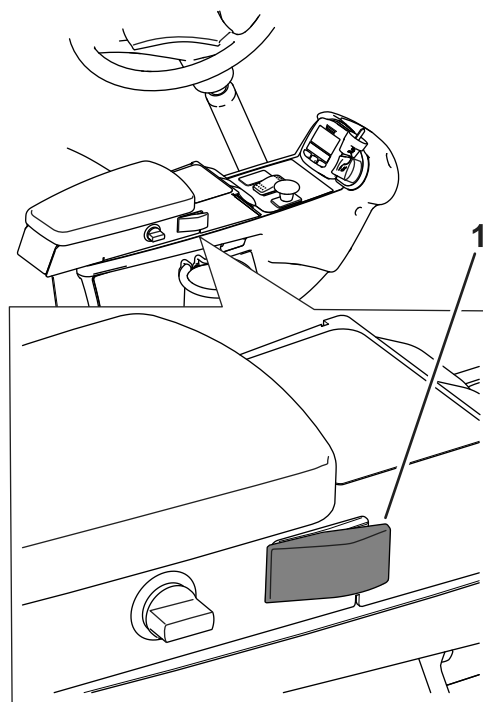
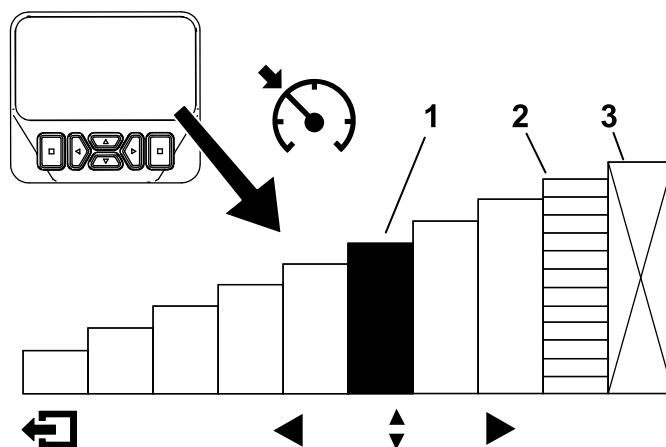

Figure 30
Figure 31
After the cruise control switch is enabled and the speed is set (Figure 30), use the InfoCenter to adjust the speed setting of the cruise control (Figure 10 and Figure 31).
1. Enable the cruise control switch on the console (Figure 30).
2. Use the InfoCenter display to adjust the speed setting of the cruise control (Figure 31).